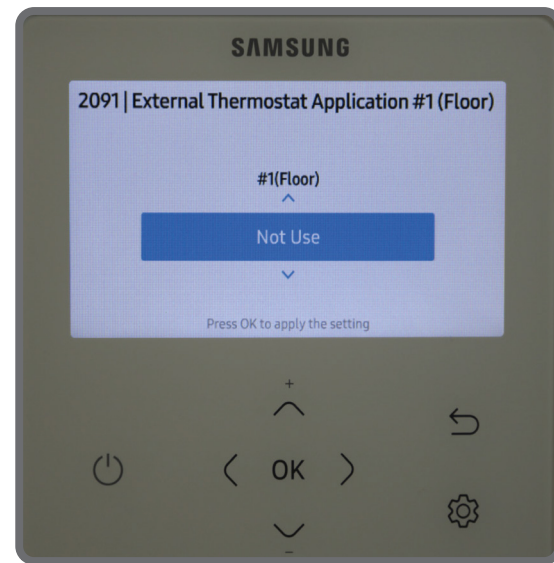

figure 23
2. Go to “Water Law” and find “2091 External Thermostat Application #1”. Set to “Not Use” (figure 23).